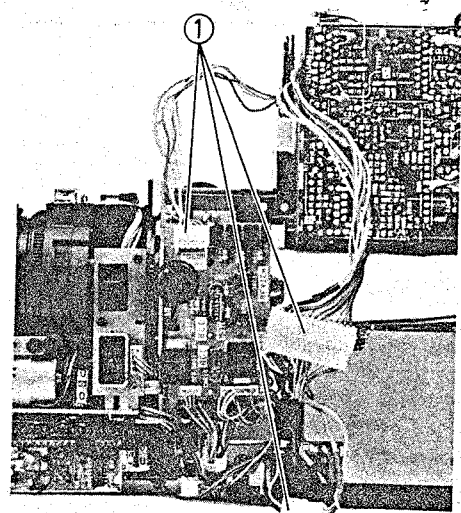

Fig. 2-33 Preamp Circuit Board Removal
(Figs. 2-33, 2-34, 2-35, 2-36, 2-37, 2-38)
1. Disconnect three (3) connectors (CN1501, CN602, CN404). (See Fig. 2-33)